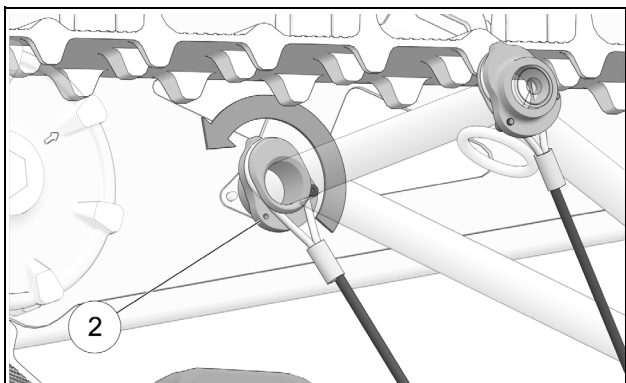

Figure 19
- Rotate upper cam (2) 180°. See reference figures and **BASIC TUNING** to identify the preferred cam position. See Figure 19.